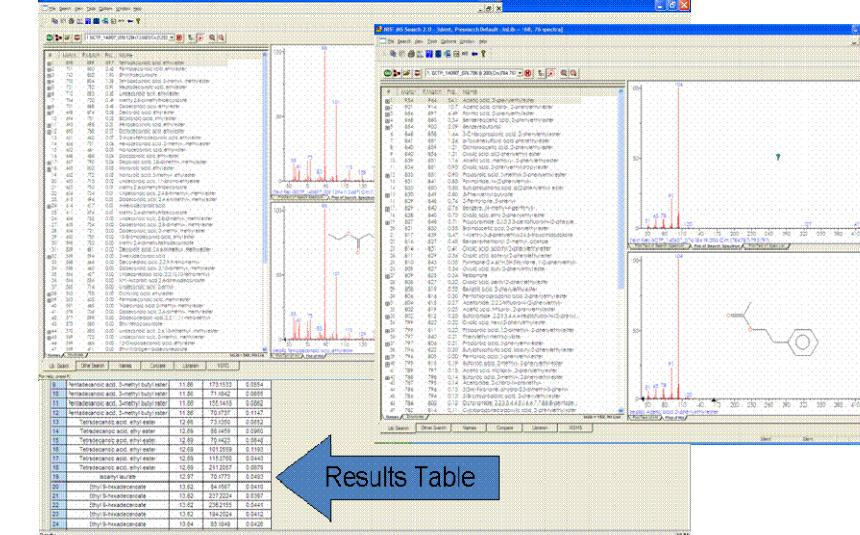

Fig 10: Screen shot showing some of the results obtained from searching the NIST library and the GC/TOF MS results table,
- Identification of EMRTs identified from the GC-MS analysis can be performed by library searching (fig. 10).